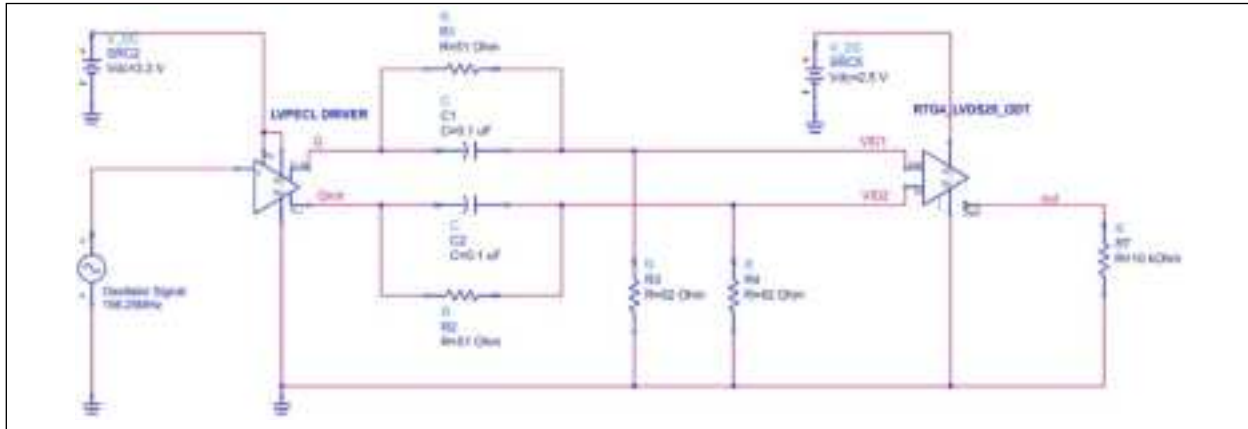

FIGURE 9: LVPECL to LVDS25_ODT, V_{ICM} Self-Bias.
- 2:** See Figure 9 for the setup diagram. The oscillator clock driver (1304R156M25000BF used) was mounted on the RTG4 DevKit in place of the REFCLK 125 MHz (disabled and isolated) for testing.
Note 1: This V_{ICM} Self-Bias termination is similar to the setup of Figure 9 without the coupling capacitors C1 and C2. The driver output signal is divided down by the resistor network but is still large enough to drive the RTG4 LVDS25_ODT. The rad-hard oscillator 1304R156M25000BF can be used for the clock source.